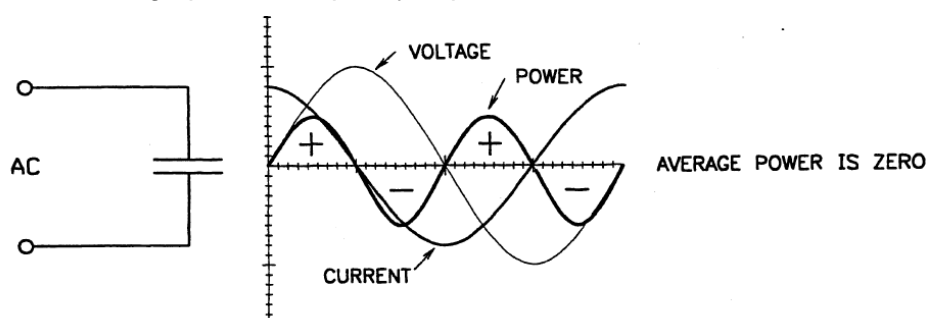

Figure 6 – Power in a purely capacitive circuit
40. Figure 6 shows the instantaneous values of power ($V \times I$) over one complete cycle. The power above the X axis is regarded as positive power (power taken from the mains), and the power below the X axis is regarded as negative power (power returned